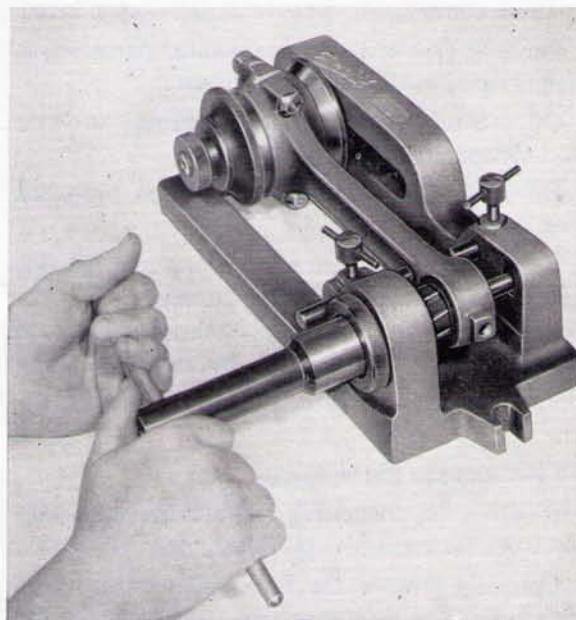

Fig. J.8.
8. Obtain the reamer marked 'rough' and applying thin oil to the pilots insert the reamer into the bushes in the fixture. (See Fig. J.8). Apply kerosene to the cutting teeth and into the small end bush.